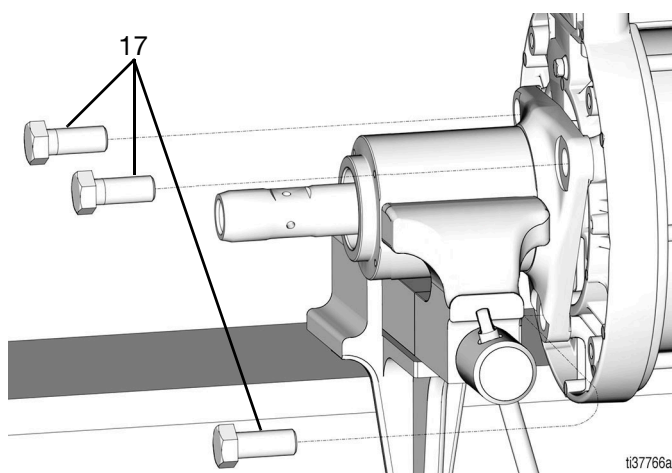

FIG. 14
16. Loosen and remove the three outlet housing adapter screws (17) using a 15/16 in. wrench (FIG. 14).